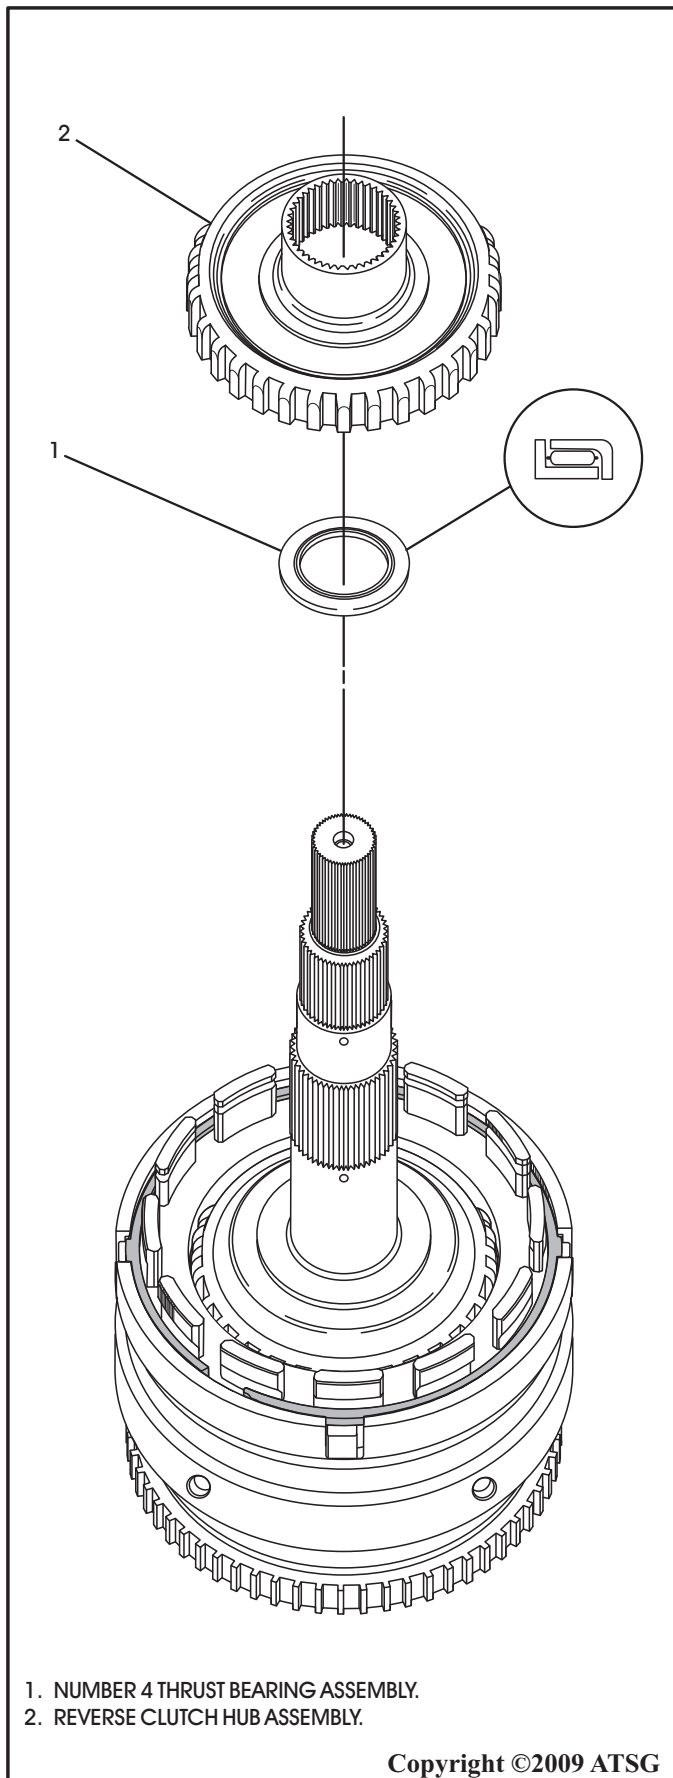

Figure 83
46. Install the number 4 thrust bearing into reverse clutch hub, in the direction shown in Figure 83, and retain with small amount of TransJel®.
47. Install the reverse clutch hub assembly into the input housing over both shafts, as shown in Figure 83.